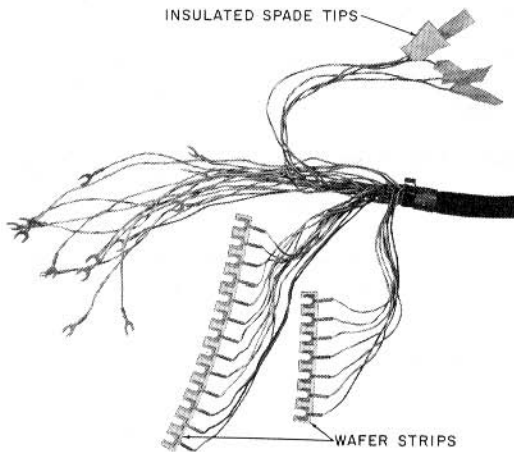

Fig. 10—Slotted Wafer Strip End of Mounting Cord, Later Type
3.07 Mounting cords of late manufacture feature a slotted wafer strip (Fig. 10) to facilitate replacement.